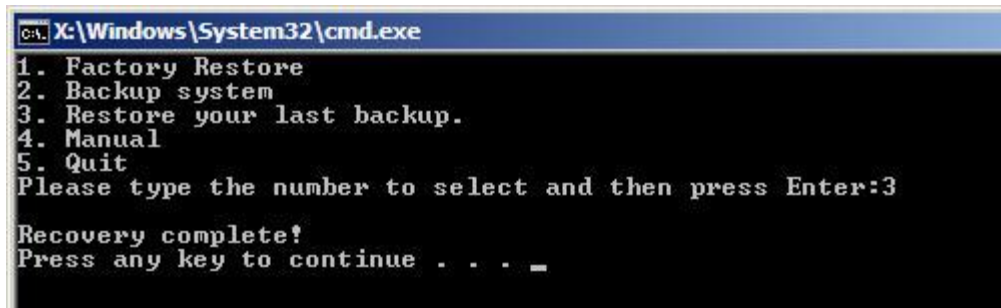

Figure A-39: Restore System Backup Complete Window
**Step 3:** The screen is shown as in **Figure A-39** when backup recovery is completed. Press any key to reboot the system.